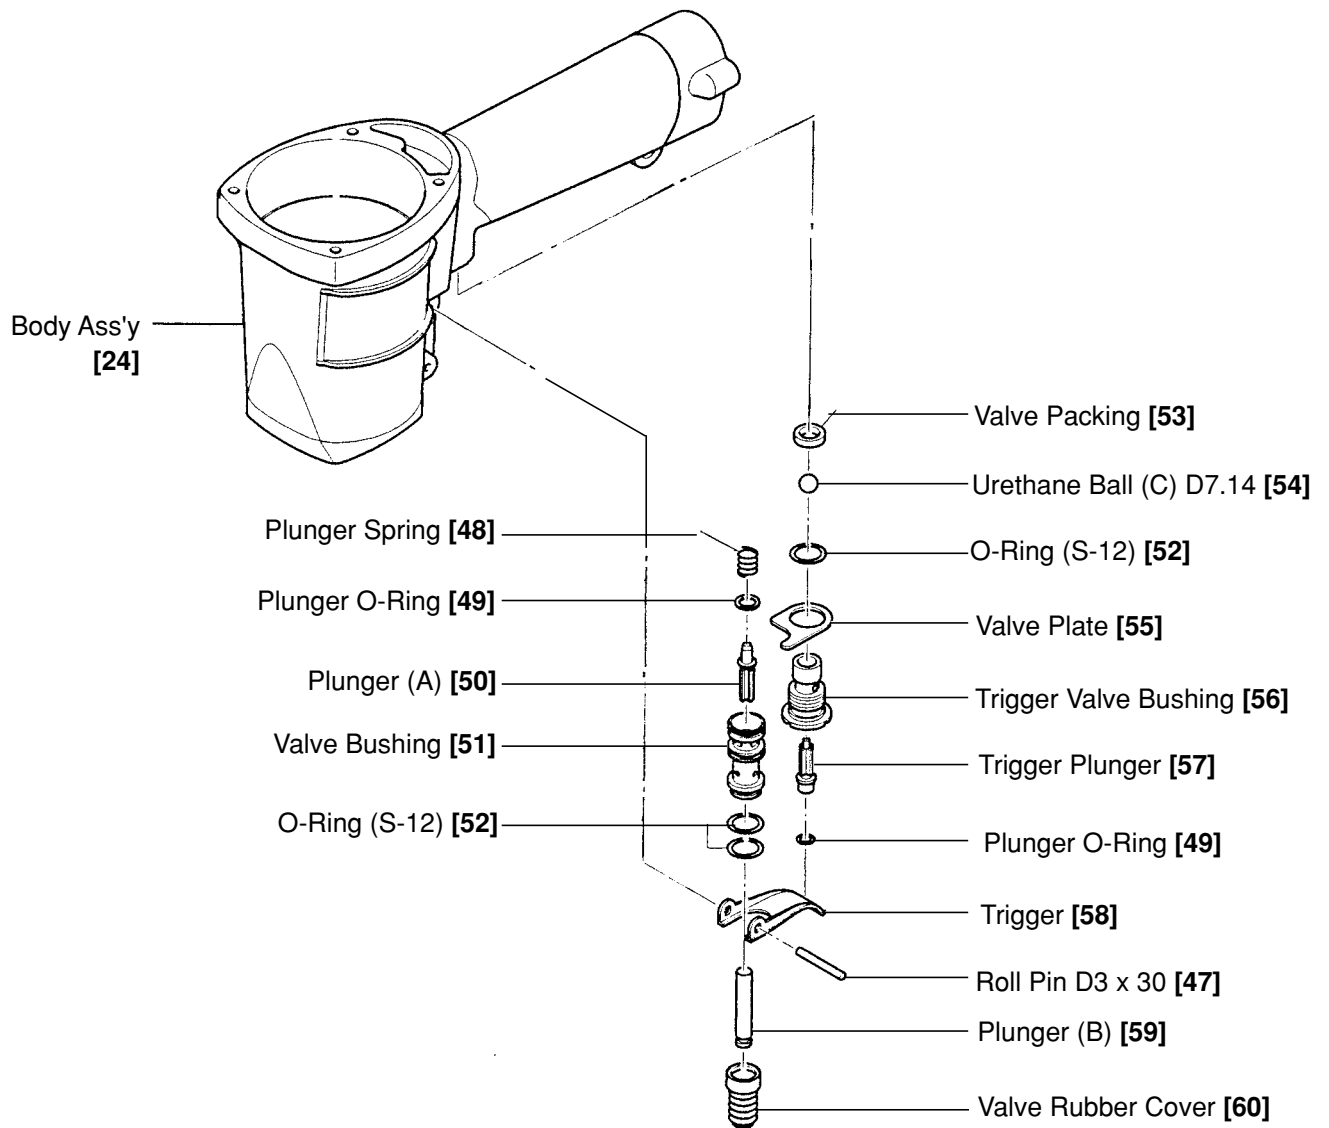

Fig. 15
10-3. Disassembly and Reassembly of the Valve Section: (See Figs. 15 and 16.)
- After mounting the Valve Rubber Cover [60] on Plunger (B) [59], reassemble Plunger (B) [59] into the Valve Bushing [51]. As illustrated in Fig. 15, ensure that the lips of the Valve Rubber Cover [60] are properly inserted into the grooves provided between the Valve Bushing [51] and Plunger (B) [59].
- On completion of reassembly, ensure that when Plunger (B) [59] is pushed up with a finger and released, it smoothly returns to its original portion.